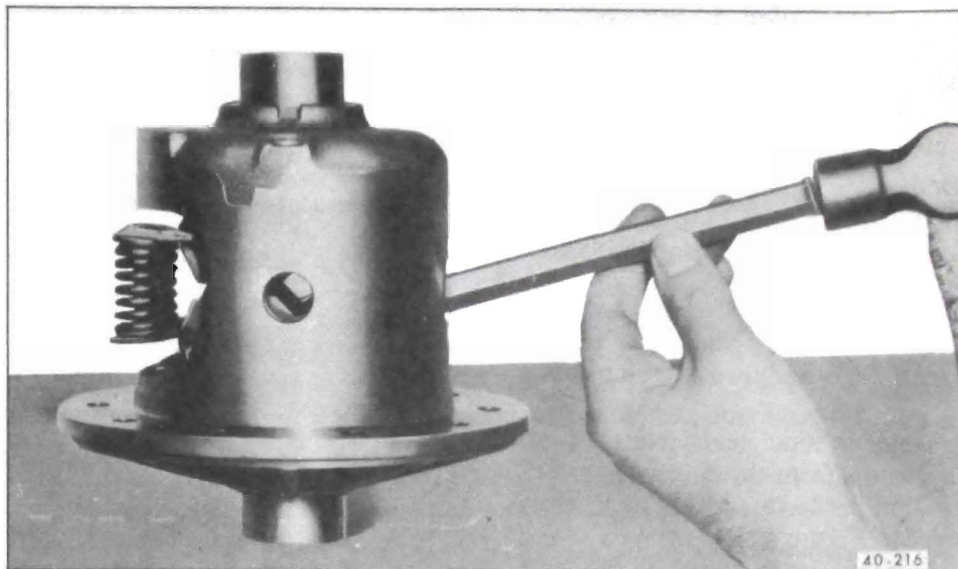

Figure 40-203 - Partial Removal of Preload Springs and Retainers
3. Insert a brass drift through observation hole in the case and by tapping on the spring retainers, partially remove the preload springs and retainers. See Figure 40-203.